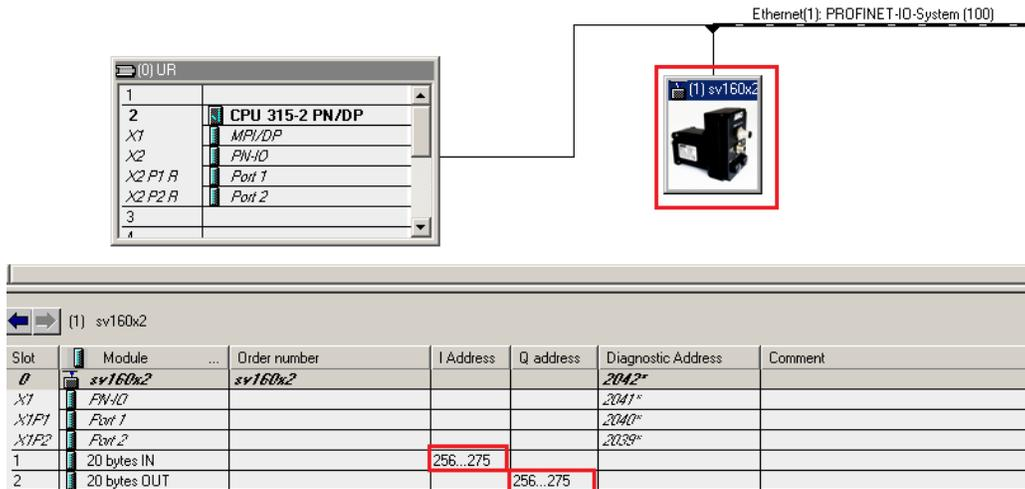

Figure 3: I/O area address range of the SV160x2
- a) The **LADDR** parameter selects the PROFINET I/O module from which data will be read. As shown in the Figure 3, the starting address for the SV160x2 input area is 256, which is 100hex.
- b) The **RECORD** parameter defines the target **Data Block (DB)**, which will contain the Sv160x2 Input Data that is read by this function. Set the pointer to the beginning of the data block (P#DB1.DBX0.0) and define the data length (BYTE 20).
- a) The **LADDR** parameter selects the PROFINET I/O module to which data will be written. As shown in the Figure 3, the starting address for the SV160x2 output area is 256, which is 100hex.
- b) The **RECORD** parameter defines the target **Data Block (DB)**, which will contain the SV160x2 Output Data to be written to the SV160x2 drive by this function. Set the pointer to the beginning of the data block (P#DB2.DBX0.0) and define the data length (BYTE 20).